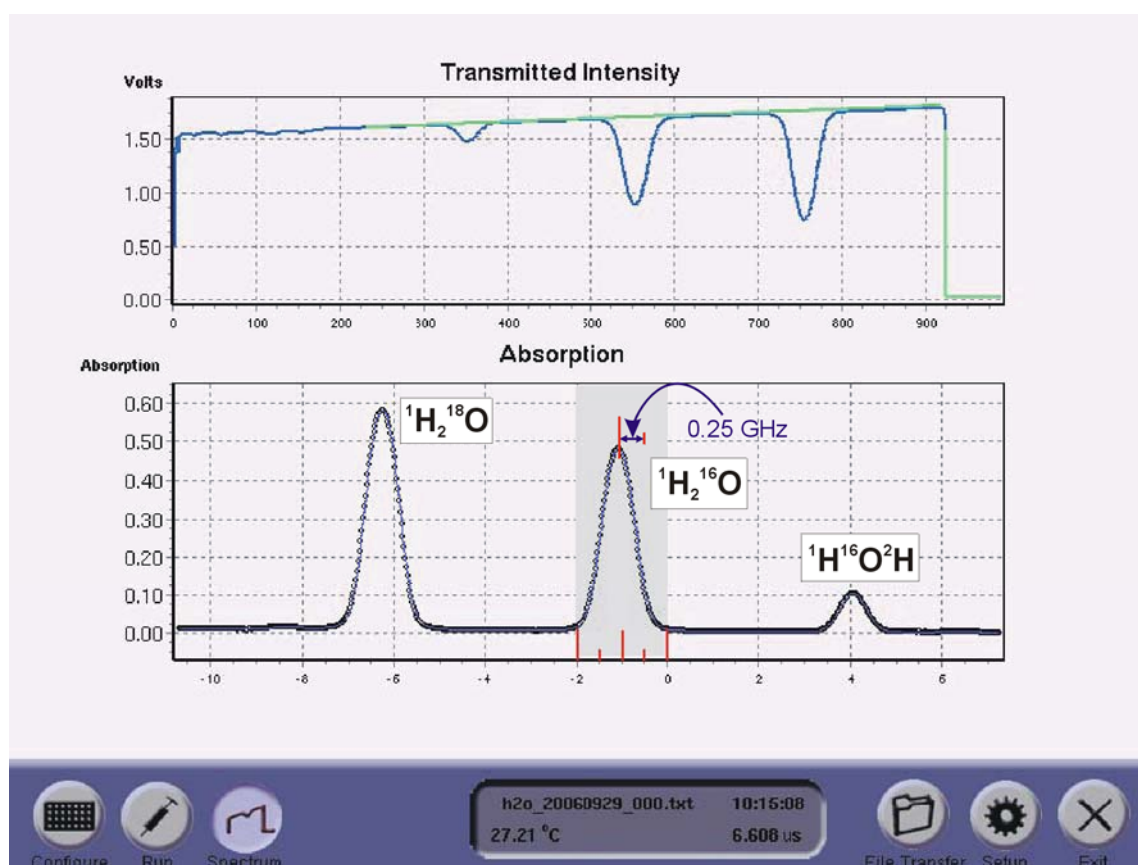

Figure 4. Spectrum Check
3. Check the spectrum on the laser (see example in Figure 4) by selecting spectrum. This spectrum is from the last analysis that is stored in the system's memory (note there will be no spectrum the first time you turn on the machine). Examine the absorption peak and make sure it is within the shaded area on the plot. If the peak is out of alignment (to the right) by at least $\frac{1}{2}$ division (0.25 GHz) and the curve extends outside the right side of the shaded area, follow the laser offset adjustment procedure in the LGR manual. The adjustment should only be required every three to five days, but always check it before starting a run.